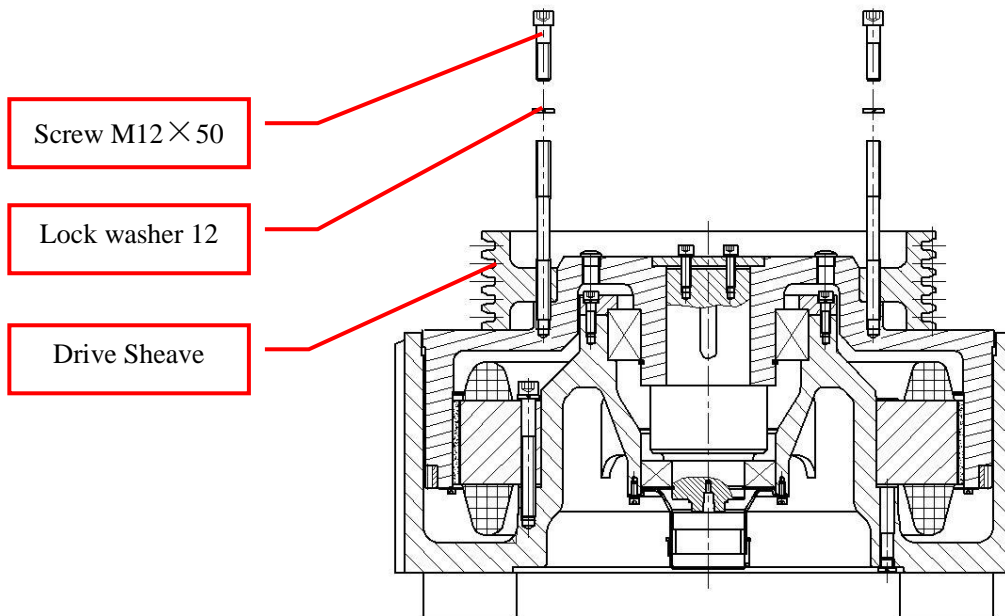

Figure 39: Secure the Drive Sheave
3. Remove the double ended studs M12×160, then screw in ten screws M12×50 and lock washers 12 to fasten the traction wheel (the screws should be tightened diagonally). Tighten the screws again after the drive sheave has cooled to room temperature. The tightening torque is 70Nm (56 ft lb). See Figure 39.